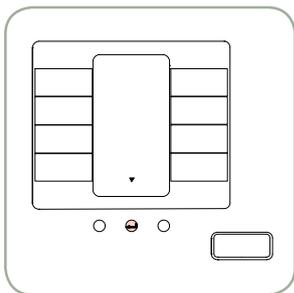

Fig. 25 General selection screen
- Press the Enter key to go to the general selection screen (fig.25).